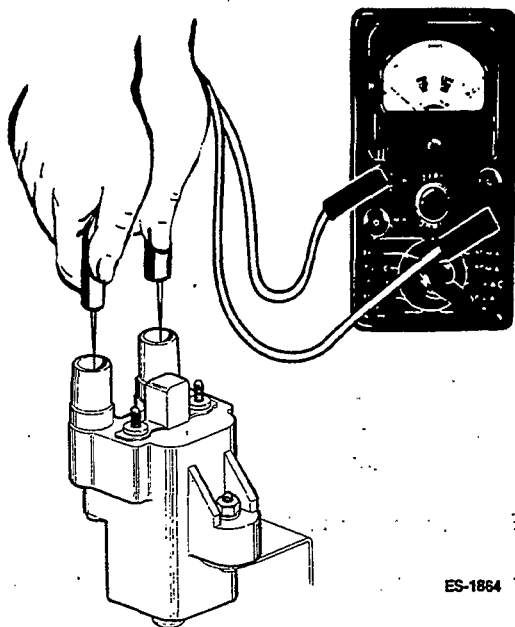

FIGURE 6-8. TESTING IGNITION COIL SECONDARY
6. Measure resistance in the secondary circuit; connect the ohmmeter leads to the two high voltage terminals (see Figure 6-8). This resistance should be between 10 and 40 kilohms. Replace the coil if it is not within this specification; lower resistance indicates a shorted secondary winding, and higher resistance indicates the coil has excessive internal resistance or an open circuit.